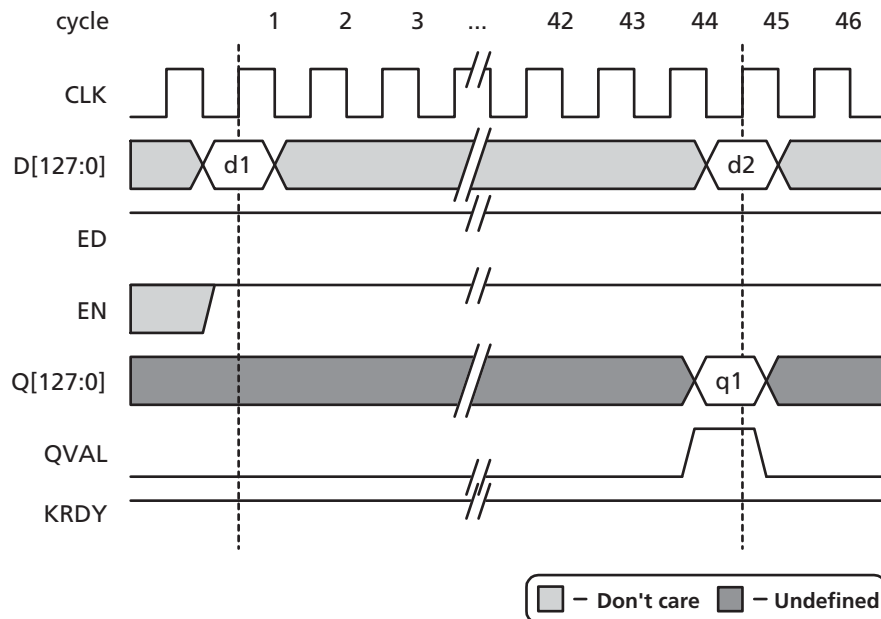

Figure 7 • Example Encryption Sequence
To begin the process of encrypting data as shown in Figure 7, perform the following procedures:
2. Set D[127:0] to the plaintext data (d1 in Figure 7) to be encrypted.
transition from logic '0' to logic '1' and remain valid for one clock cycle. This indicates that valid ciphered (encrypted) data (q1 in Figure 7) is available on the Q[127:0] outputs. Note that the encrypted data is only available during clock cycle 44, thus the user must register or latch the data on Q[127:0] using the QVAL signal as a qualifying register enable or latch enable.
As shown in Figure 7, continuous encryption is possible. For example, the second 128-bit plaintext data word (d2 in Figure 7) can be immediately encrypted by setting the D[127:0] input to d2 on the rising clock edge of clock cycle 45.